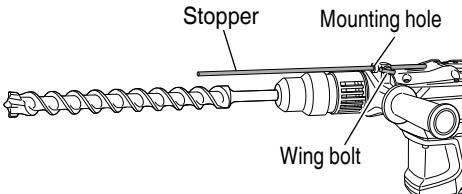

Fig. 16
- (c) Switch the selector lever to "hammering" according to the procedures mentioned in the above item (1) and secure the position of the tool.
5. Install the stopper (Fig. 16)